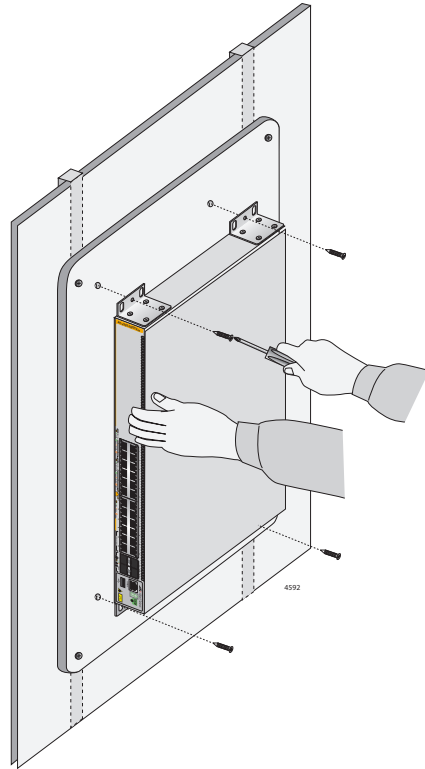

Figure 8. Securing the Switch to the Plywood Base
- ❑ Position it so that the front panel is facing left or right. Refer to Figure 8. Do not install it with the front panel facing up or down.